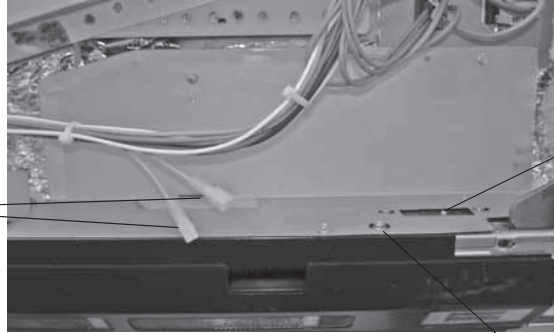

Figure 1
1. Connect an ohm-meter to wire harness (as shown in figure 1, to verify switch activation).